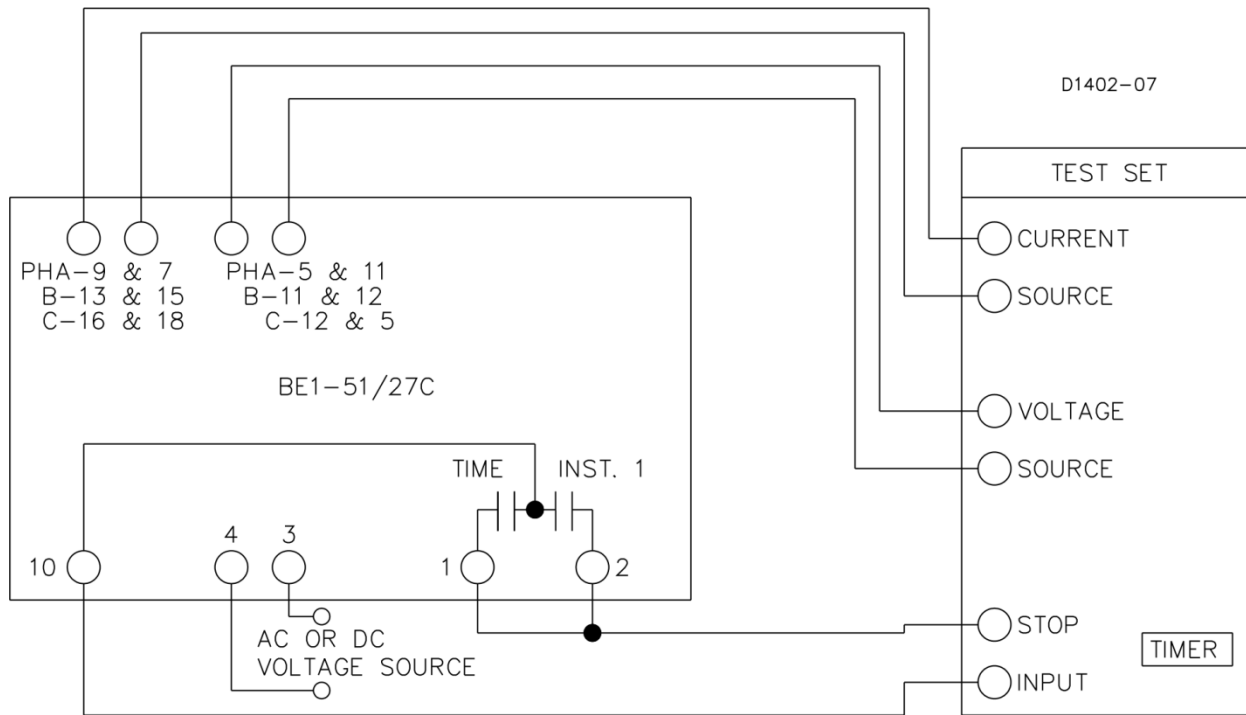

Figure 5-4. Test Setup for Sensing Input Type A (Three-Phase, Delta Configuration)
- (d) Sensing Input Type A (Three-Phase Sensing). Refer to Figure 5-4.